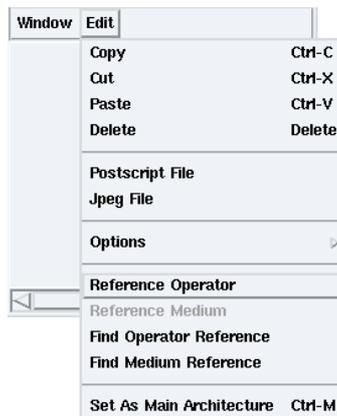

Figure 1.15: Edit / Reference Operator
- to create a reference to the operator `Uinout`, **Edit / Reference Operator** (*cf.* figure 1.15) → dialog window: click **user**, double click **Uinout** → dialog window: `u1`,